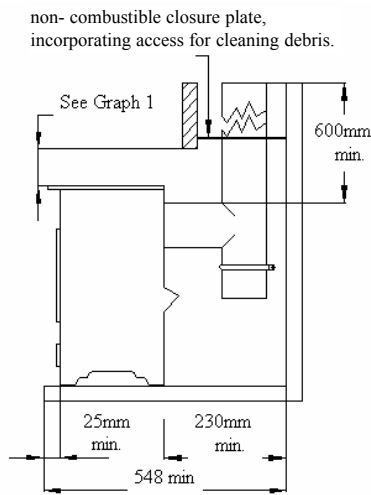

fig 6b.
Provide a minimum vertical height of 600mm of flue from the height of the rear flue outlet. See figure 6b.
*There must be a minimum of 230mm from the rear of the fire to any combustible back wall. Fig 6b.*